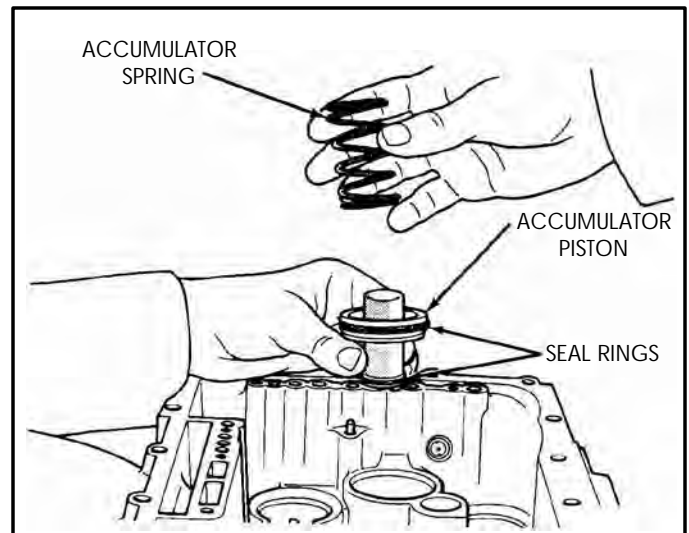

Figure 213
8. Install new piston seal rings on accumulator piston, as shown in Figure 213.
9. Install accumulator piston spring on top of the accumulator piston, as shown in Figure 213.